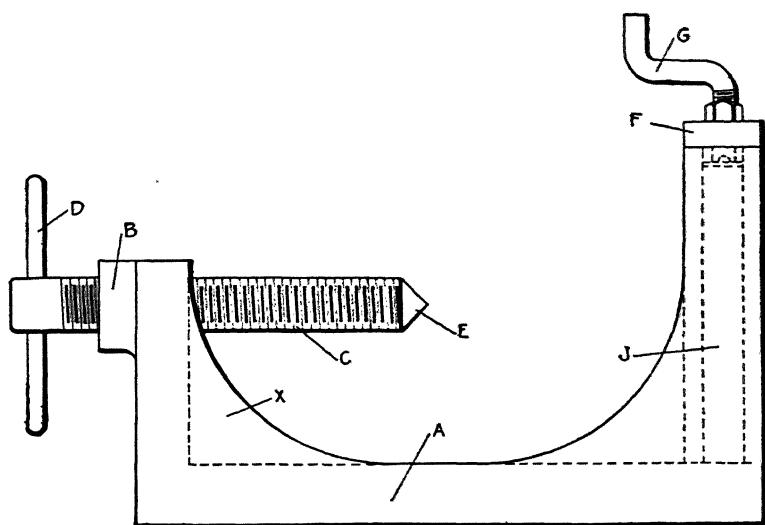

Fig. 19. Bearing Puller Side View
**Bearing Puller.** There are several bearing pullers on the market, but they are not adaptable to every kind of job and are weak when it comes to a real hard pull. A practical puller is shown in Fig. 19. The base *A* is of cast iron, having a front vertical standard *J* and a boss *B* cast to receive the screw *C*. This screw is  $\frac{3}{4}$  inch with a standard thread. A good snug fit should be made,